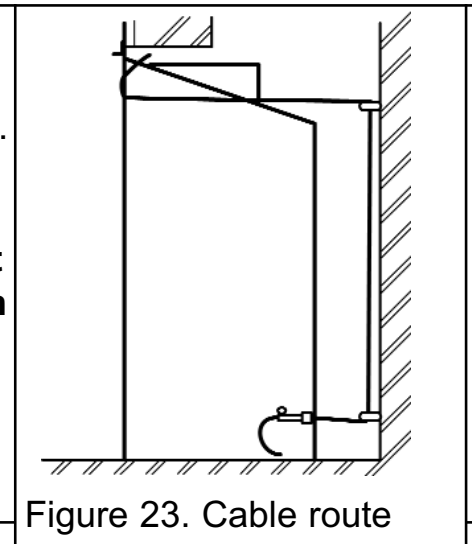

Figure 23. Cable route
6. Thread the cables through the eyebolts. Return the cables through the holes near the bottom of the convection box back panel (See figure 23) (**For precast or clay block flue systems return the cables through the slotted holes in the side of the convection box**).